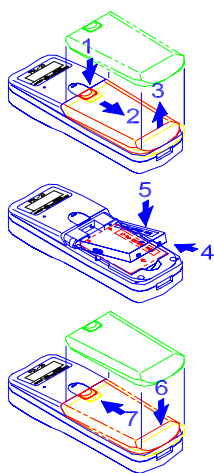

Fig 1
Take the **PDL-20A** Portable Data Terminal out from the box; place the accompanying battery in the battery compartment as shown in fig 1:
- b. Remove the back cover in a sequence similar to Fig 1.